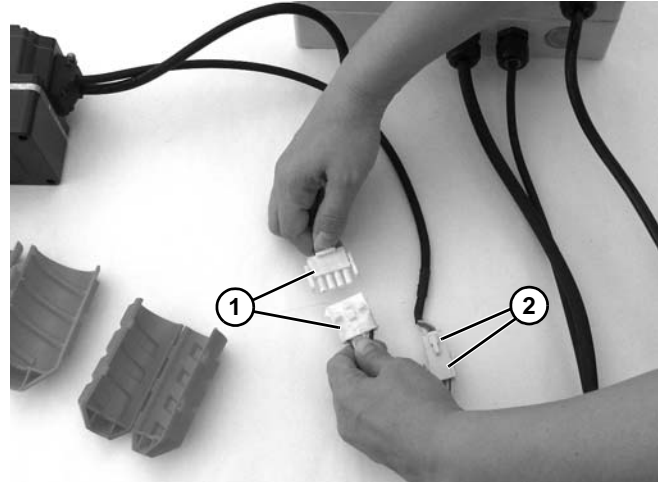

Figure 26
4. Unplug motor cord connectors (Figure 26, item 1) and signal cable connectors (Figure 26, item 2).